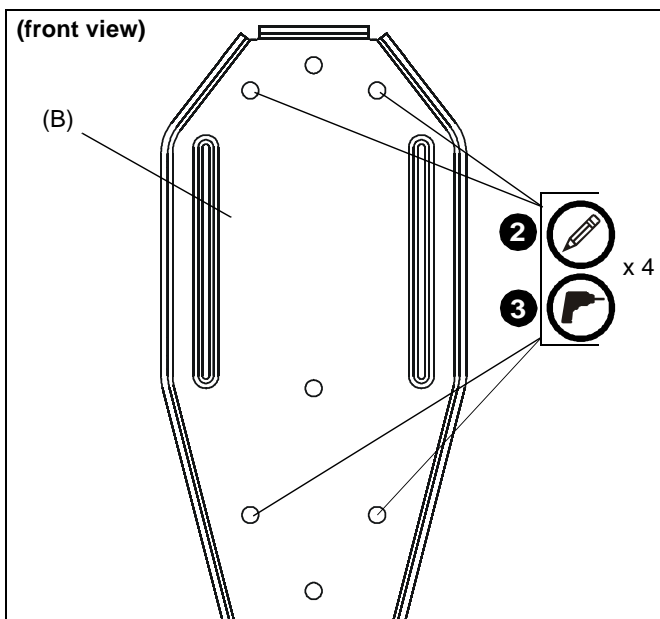

Figure 1
2. Using wall bracket (B) as a template, mark four holes at the outer holes in bracket. (See Figure 1)
3. Drill four 3/8" x 3-3/8" deep holes at marked locations in wall. (See Figure 1)